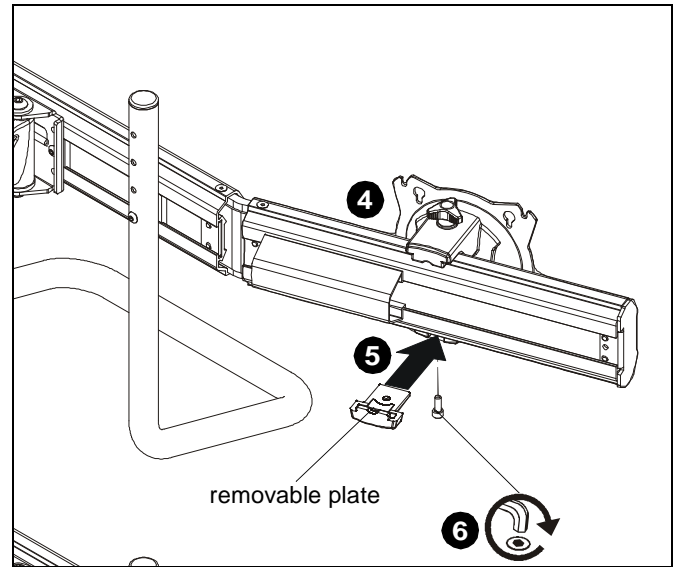

Figure 15
4. Place faceplate assembly on array arm at desired mounting position. (See Figure 15)
5. Slide removable plate back into slot at bottom of faceplate assembly. (See Figure 15)
6. Reinstall socket head cap screw removed in Step 1 to secure faceplate assembly to array arm. (See Figure 15)